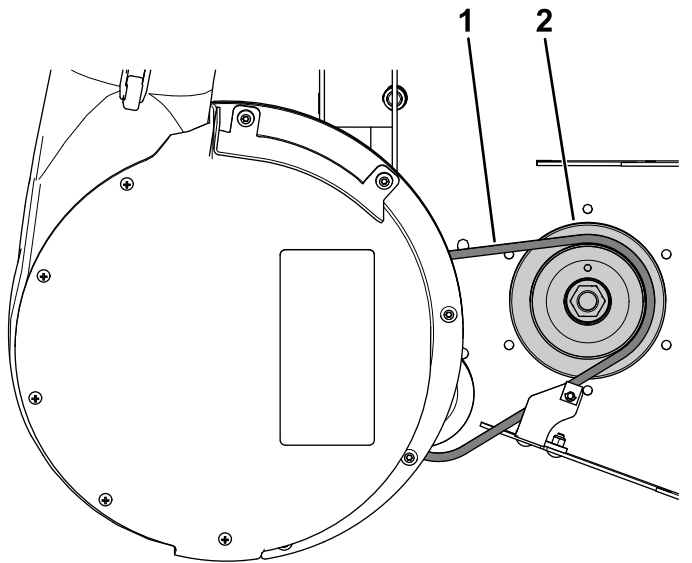

Figure 21
1. Pull back the spring-loaded idler pulley and route the blower belt around the drive pulley (Figure 21).